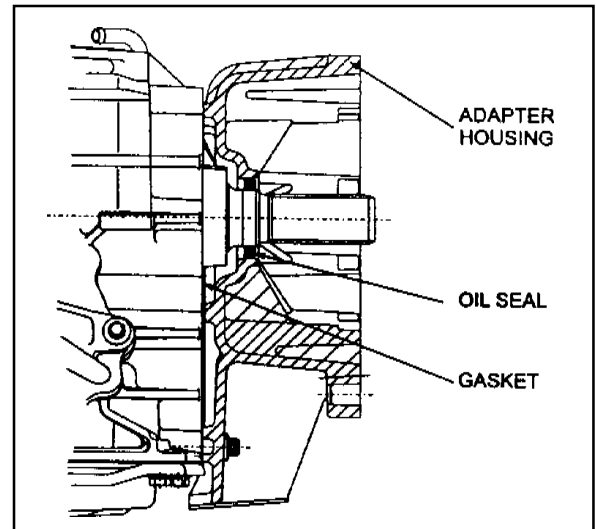

Figure 8.21 - Extension Housing
Refer to figure 8.21.
5. Check that the plugs are fitted to the centre support, then assemble the centre support into the OWC, ensuring that the support will rotate in an anti-clockwise direction only. Refer to figure 8.21.
2. Install a new seal to the extension housing or adaptor housing. Refer to figure 8.21.